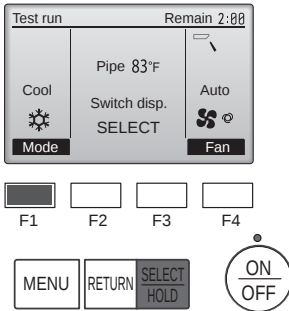

Fig. 7-5
- ① Press the [F1] button to go through the operation modes in the order of "Cool" and "Heat". (Fig. 7-5)
- ② Press the [SELECT/HOLD] button and open the Vane setting screen.